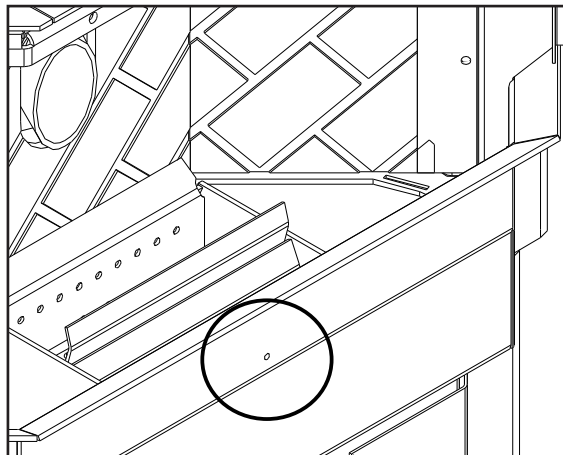

Figure 7: Hole for Pressure test with Magnahelic Gauge.
For troubleshooting purposes the firebox vacuum pressure may need to be confirmed. This should be done only on a hot stove (operating for thirty (30) minutes or more) by placing a Magnahelic Pressure Gauge in the firebox. The reading can be taken from the 1/8" (3 mm) hole located in the front of the firebox under the door (see Figure 7).